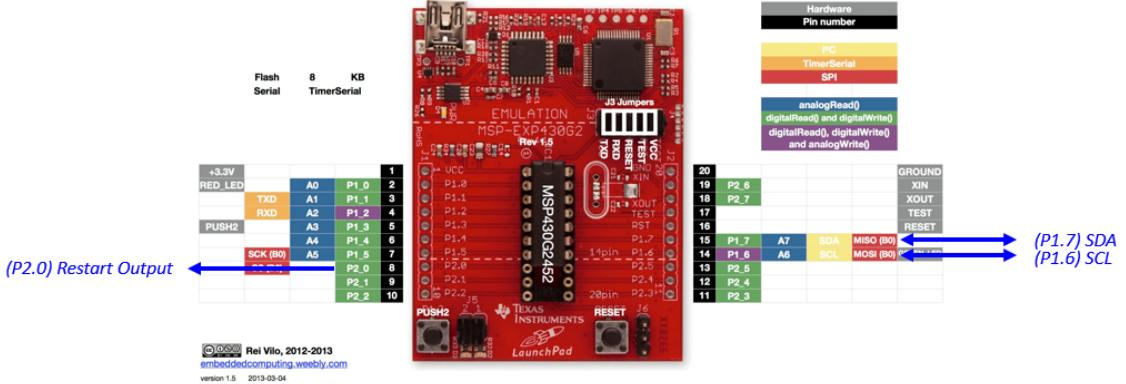

Figure 2: MSP-EXP430G2 board pinout.
A MSP-EXP430G2 board is used to realize the RoT module. The MSP-EXP430G2 board is a development board specifically designed for MSP430 series micro-controllers developed by *Texas Instruments* (TI). It is equipped with a MSP430G2452 [5], an instance of the MSP430 micro-controllers. The board is operated under 3.3V power which drives the MSP430G2452 micro-controller as well as its inputs/outputs. Figure 2 displays the board and its pinout.
To make the timer configurable to the host (the platform that uses the RoT module), a communication interface is provided. We choose  $I^2C$  as the interface in our design since  $I^2C$  is commonly adopted in many passive components (*e.g.*, sensors, memory modules). On the MSP430G2452 micro-controller, pin *P1.7* and *P1.6* can be configured as *SDA* and *SCL* for  $I^2C$  respectively, as shown in Figure 2.